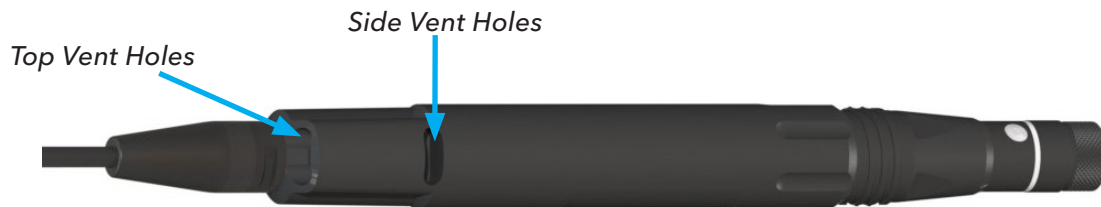

Figure 46 ProDSS ODO/CT Cable Assembly
4. For **4 port cable assemblies**, refill the calibration cup with fresh calibration standard to approximately the first line for pH, ORP, and turbidity calibration. Fill to the second line for conductivity calibration (Figure 43 on page 34). If using the **ODO/CT cable assembly** and calibrating conductivity, ensure the vent holes at the top of the sensor are completely immersed and the solution level is at least 1/2 inch higher than these top vent holes (Figure 46 on page 36). A cylinder is included with ODO/CT cable assemblies for the purpose of calibrating conductivity.
4. Carefully immerse the sensors into the solution. Make sure the solution is above the vent holes on the side of the conductivity sensor. If using the ODO/CT assembly, ensure the vent holes at the top of the sensor are completely immersed and the solution level is at least 1/2 inch higher than these top vent holes (Figure 46).